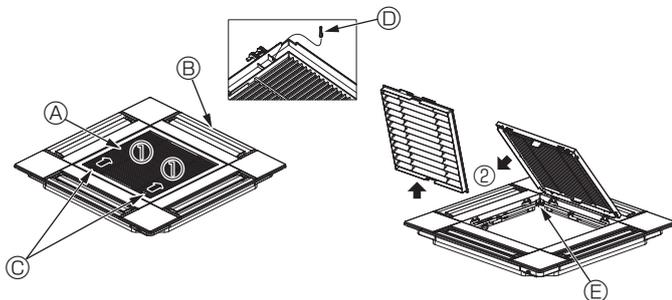

Fig. 6-3
6.2.1. Removing the intake grille (Fig. 6-3)
- Slide the levers in the direction indicated by the arrow ① to open the intake grille.
- With the intake grille in the "open" position, remove the hinge of the intake grille from the grille as indicated by the arrow ②.